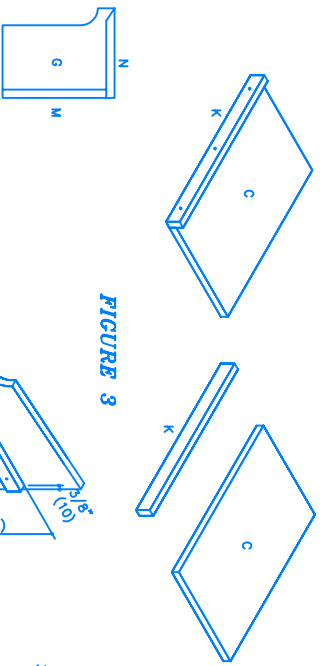

FIGURE 3
- 2) Nail K to C as shown (Fig 3) with glue and 1 1/4" finishing nails.